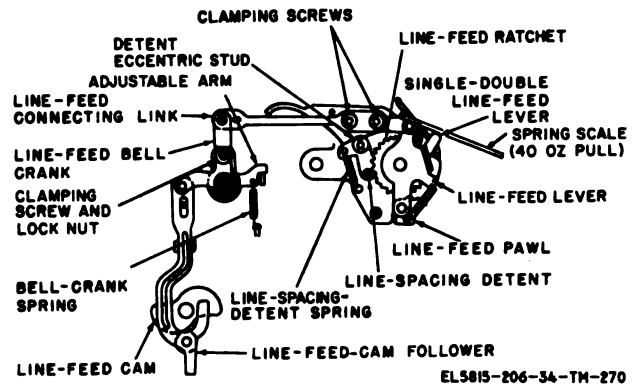

Figure 3-198. Line-feed bell-crank adjustment (TT-4B/TG and TT-698A/TG ).
**3-230. Line-Feed Bellcrank Adjustment (TT-4B/TG and TT-698A/TG)** (fig. 3-198)
(1) Position the mechanism as described in *b* (1) above. Loosen the machine screw that clamps the platen-shift bellcrank assembly to meet the requirement. Retighten the machine screw.
(2) Loosen the spring-holding screw in the line-feed bellcrank assembly. Position the mechanism as described in *b* (2) above. Position the line-feed bellcrank assembly to meet the requirement and retighten the spring-holding screw.
(3) Position the mechanism as described in *b*(3) above. Loosen the self-locking hexagonal nut that holds the line-feed pawl. Position the line-feed pawl to meet the requirement and retighten the nut.
(4) Position the mechanism as described in *b*(4) above. Loosen the two machine screws that hold the adjustable blocks. Position the adjustable blocks to meet the requirement and retighten the machine screws.
**3-232. Line-Feed Connecting-Link Adjustment (TT-4B/ TG and TT-698A/ TG) (fig. 3-198)**
(1) A pull of 40 ounces applied to the line-feed lever should not prevent the line-feed mechanism from turning the platen when the single-double line-feed lever is in either the single or double line-feed position.
(2) When the line-feed operation is completed, the line-feed pawl should be clear of the line-feed ratchet.
(1) Hook a spring scale on the upper arm of the line-feed lever and exert a downward and forward pull of 40 ounces on the spring scale while receiving repeated line-feed code combinations. This should not prevent the line-feed mechanism from turning the platen.
(2) When the teletypewriter is in the stopped position, attempt to rotate the platen forward and backward. It should rotate freely.
**c. Adjustment.** Loosen the clamping screws that hold the line-feed connecting link and position the single-double line-feed lever for double line feed operation. Select the line-feed code combination and turn the motor by hand until the line-feed-cam follower is on the high part of the line-feed cam. Rotate the line-feed lever (fig. 3-198) until the platen has advanced two line spaces. Tighten the clamping screws to hold the connecting link in this position.